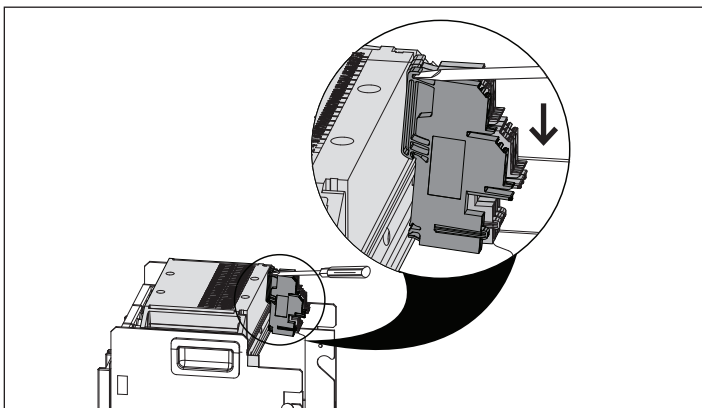

Figure 8. Removing the terminal blocks (NF frame).
Step 4. Remove any terminal block by inserting a small screwdriver (1/8" / 3 mm) in the recessed area in the top front of the terminal block as shown (see Figure 8), and gently pry down to release and remove the block from the DIN rail.